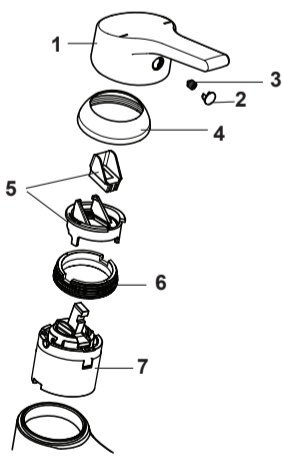

Figure 6 Single lever cartridge assembly B0164
Refer to Figure 6. Lift off block cap (2).